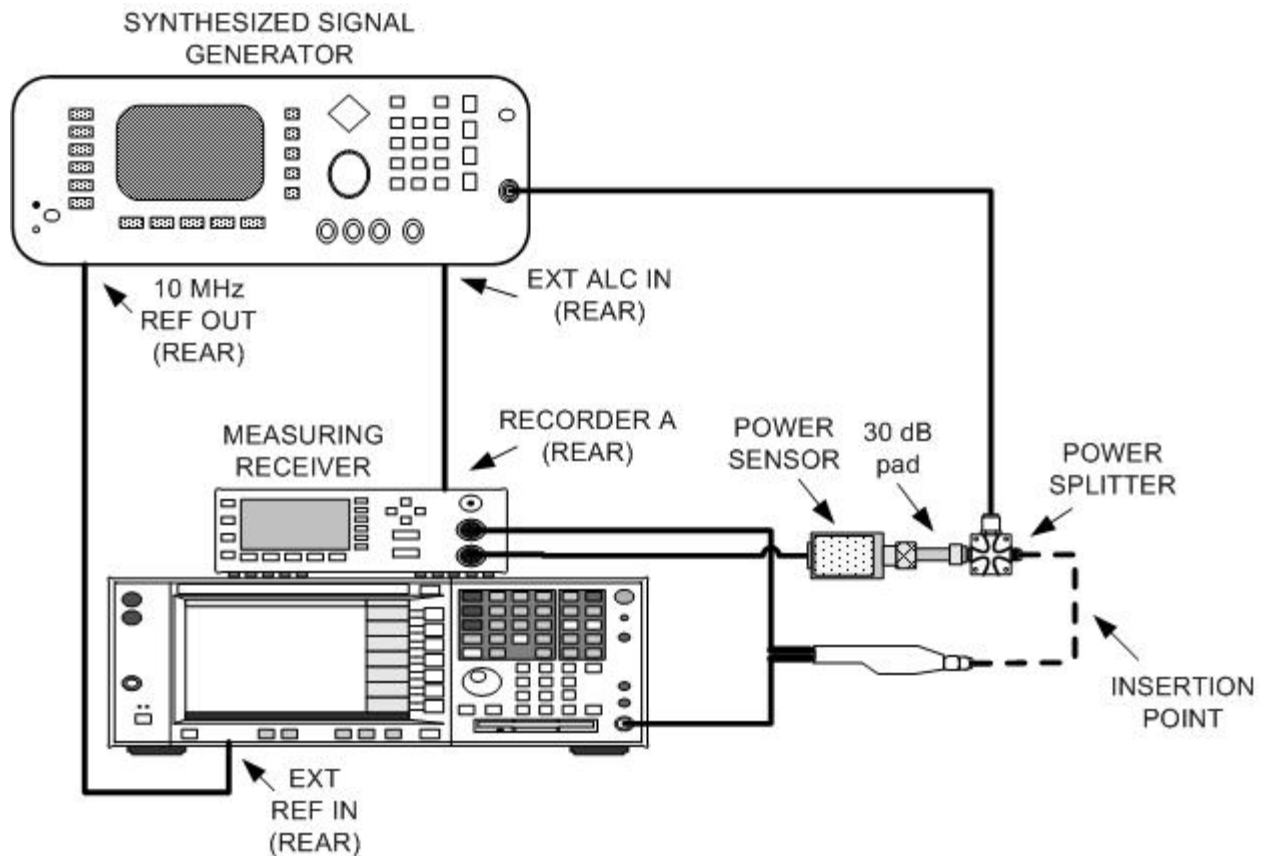

Figure 1. Attenuation Measurement (10 MHz To 26.5 GHz Equipment Setup).
d. Connect equipment as shown in figure 1 and allow equipment to warm up for 1 hour before performing paragraph 8 or 9 below.
(4) Adjust signal generator output for 0.0 dBm indication on measuring receiver.
(5) Configure measuring receiver in the ratio mode.
(6) Connect the attenuator at the TI INSERTION POINT as shown in figure 1.
(7) Measure and record measuring receiver indication. Measured attenuation will be within range and accuracies specified in appendix A for TI being calibrated.
(7) Measure and record measuring receiver indication as insertion loss. Measured attenuation will be within range and accuracies specified in appendix A, insertion loss column, for TI being calibrated.
(8) Increase TI attenuation setting in one step increments (or one cardinal point as desired.)
(9) Measure and record measuring receiver indication. Measured attenuation will be within range and accuracies specified in appendix A for TI being calibrated.
(10) Repeat steps (1) through (9) above for remaining test frequencies recorded in **7 a** above.